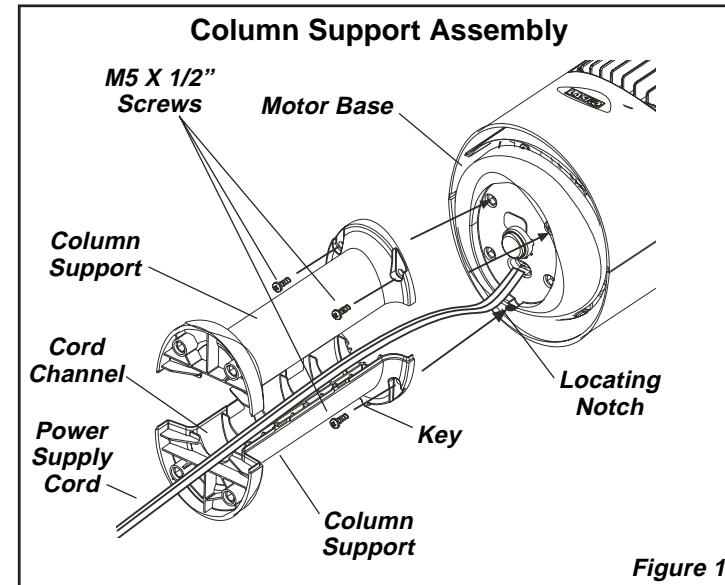

Figure 1
2. Locate the **Power Supply Cord** at the bottom on the Fan. Place the **Power Supply Cord** in the **Cord Channels** of the **Column Supports**. Snap the **Column Supports** firmly together to form the **Column Support Assembly**. (Figure 1)
3. Attach the **Column Support Assembly** to the **Motor Base** with (4) **1/2" Long M5 Screws**. Make certain to align the **Key** on the **Support Column Assembly** with the **Locating Notch** on the **Motor Base**. (Figure 1)